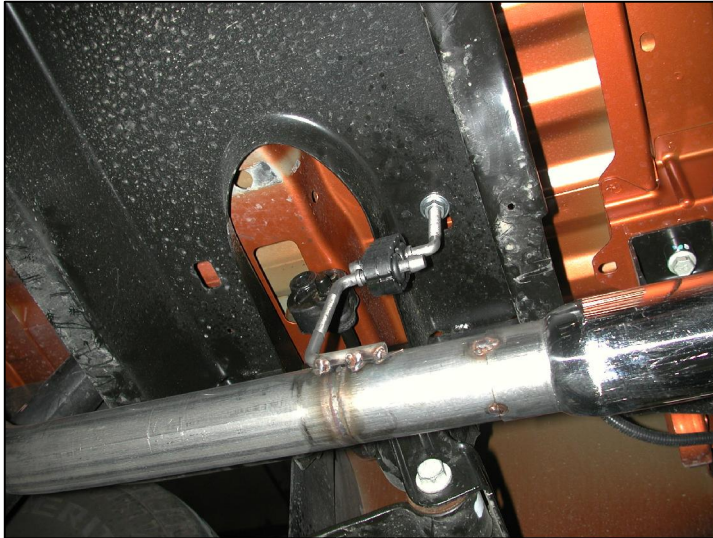

FIG. 1 - Passenger's side
Step 2: Install the inlet pipe assy at the 2-stud flange using the supplied flat washers, split-lock washers, and OEM flange nuts. Leave all clamps and fasteners loose for final adjustment of the new exhaust system. Using a supplied 2.50" clamp, install the muffler sub assy. Using two supplied 2.25" clamps, install the outlet pipes and insert the welded hangers to the OEM rubber insulator. Using two supplied 2.25" hangers and two supplied hangers with rubber insulators install both tailpipe assy. See Fig. 1 & 2 for hanger and rubber insulator installation..